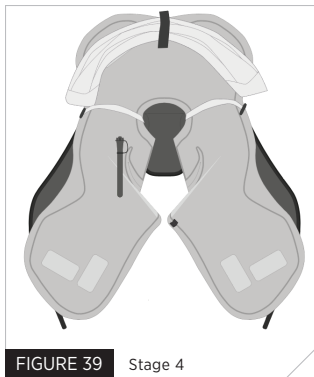

FIGURE 39 Stage 4
5. Bring the top of the hood back over to create a pocket (Fig 39).